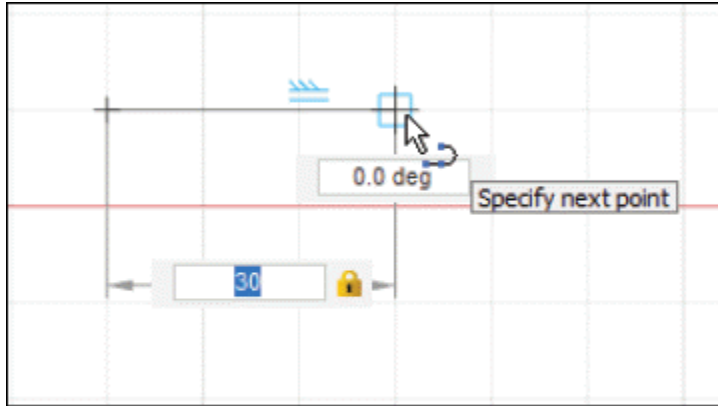

Figure-108. Starting creation of line
- Click on the origin and move the cursor towards right; refer to Figure-108.